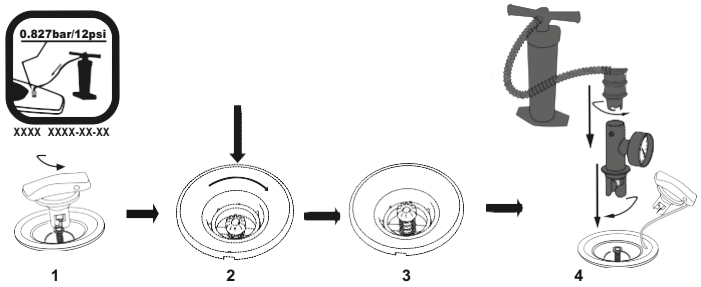

Fig. 2
3. Inflate the board by unscrewing the cap of the air valve (Fig.2 pos.1). Ensure that the inner spring valve is not depressed. If it is depressed (Fig. 2 pos. 2), press the spring valve and turn counter clockwise so the inner spring valve is in the correct position (Fig.2 pos. 3). Attached the pressure gauge onto the hose and the hose to the inflate position on the high-pressure hand pump. Inflate the board to 0.827 bar (12 psi). After inflation, screw the cap of air valve (Fig.2 pos. 4)